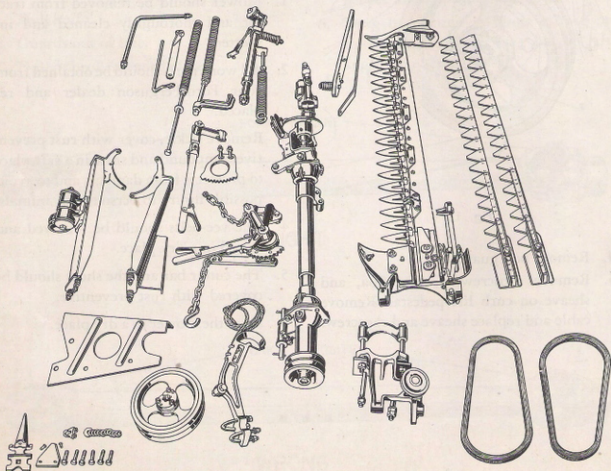

Fig. 20
1. Check Fig. 20 against standard pieces supplied with mower.